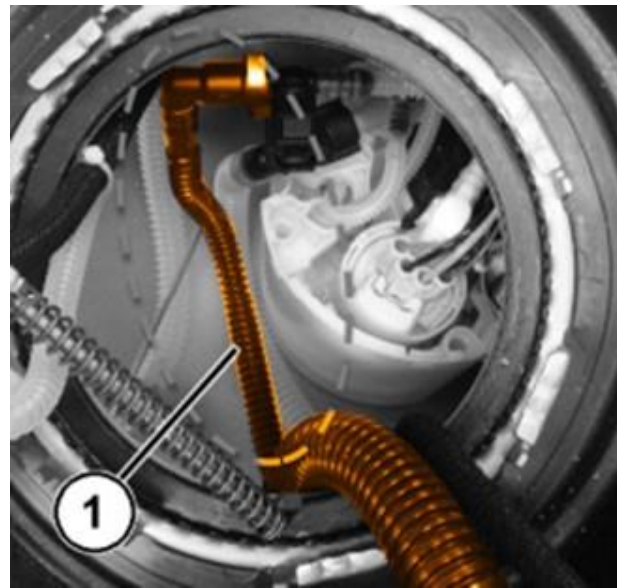

Figure 16 – Liquid/Vapor Separator Pipe
14. Make sure that the liquid/vapor separator pipe is between the drum and the metal rod of the fuel pump (1) (Figure 16).